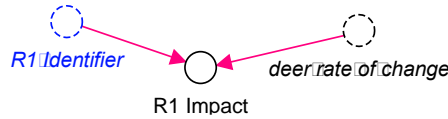

Figure 32: Impact of R1 on Deer Population
- Ghost deer rate of change and R1 Identifier and connect to a new converter R1 Impact, Figure 32, where the formula is: